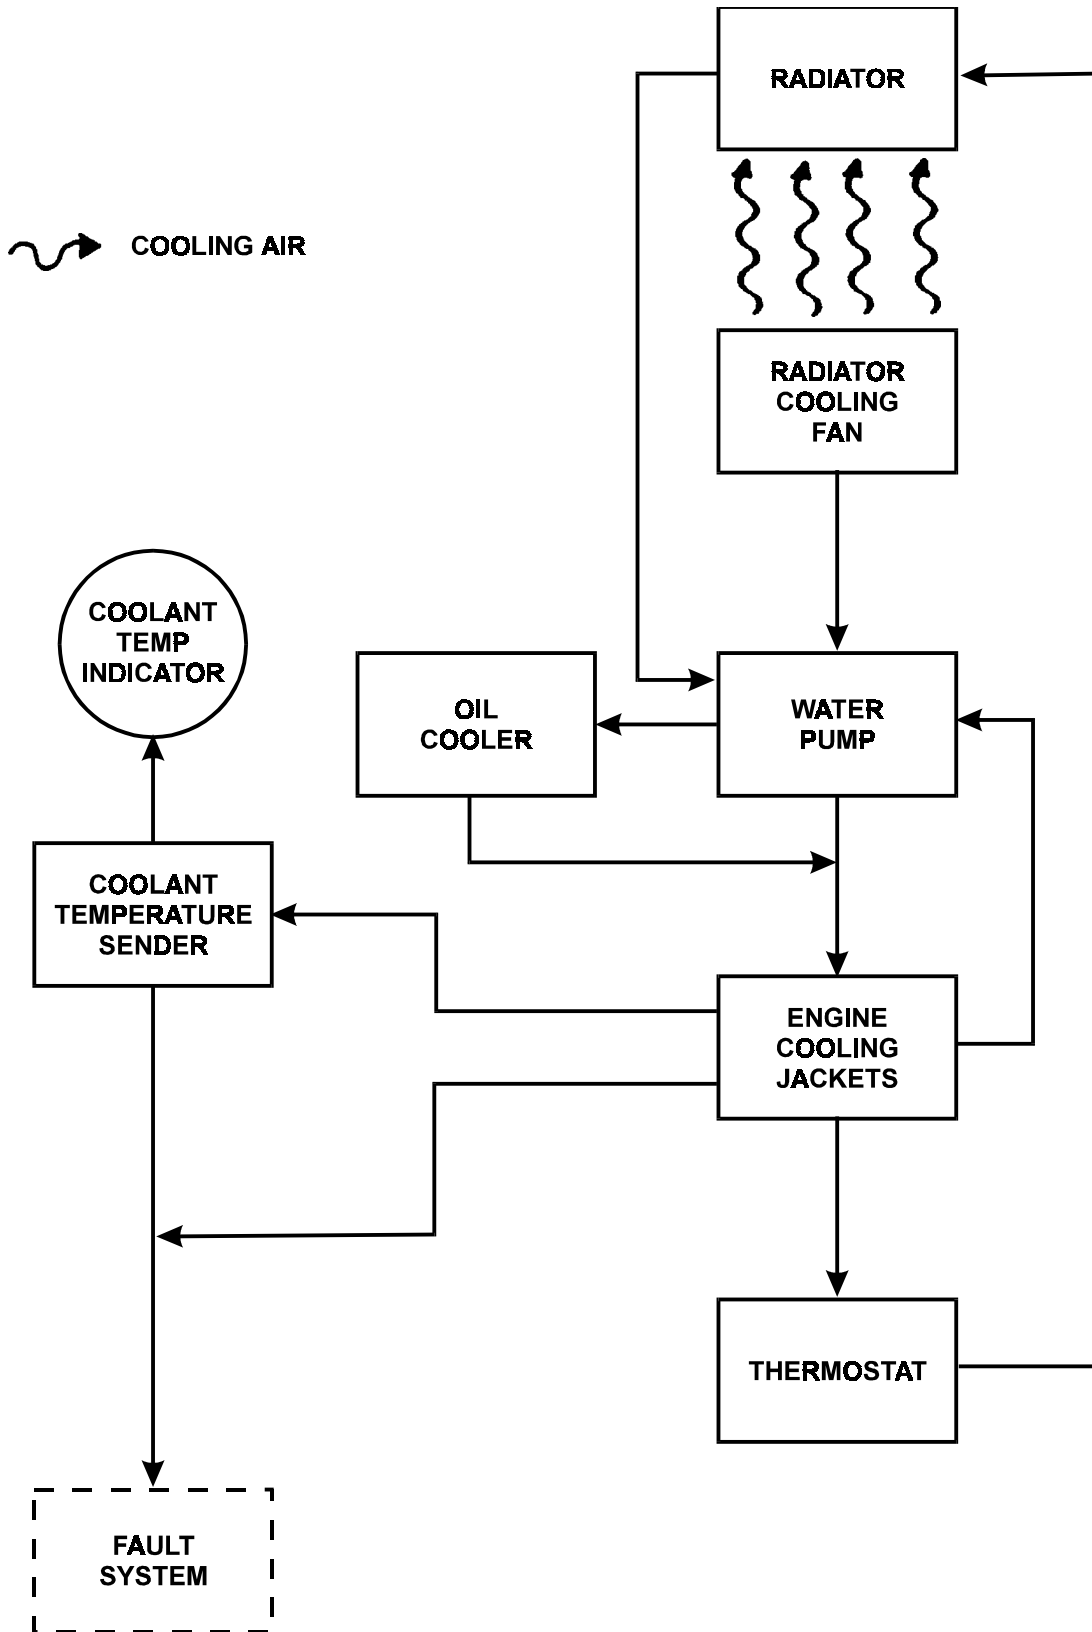

FIGURE 1-24. ENGINE COOLING SYSTEM FLOW DIAGRAM
1.16.8.1 The Engine Cooling System (Figure 1-24) consists of a radiator, hoses, thermostat, coolant temperature sender, CIM display screen COOLANT TEMP indicator, water pump, oil cooler, cooling fan, and cooling jackets (part of engine).